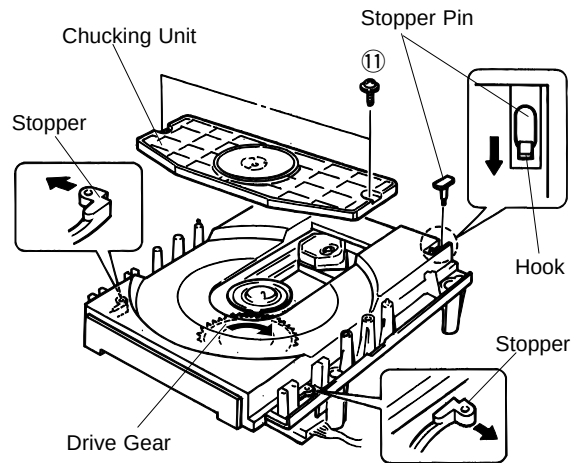

Fig. 5
- Remove 2 screws (⑪) and then remove the Chucking Unit. (Fig. 5)
- Remove 1 hook and then remove the Stopper Pin. (Fig. 5)
- Rotate the Drive Gear and then open the Tray Unit. (Fig. 5)
- Detach the Stoppers on both sides and then pull out the Tray. (Fig. 5)